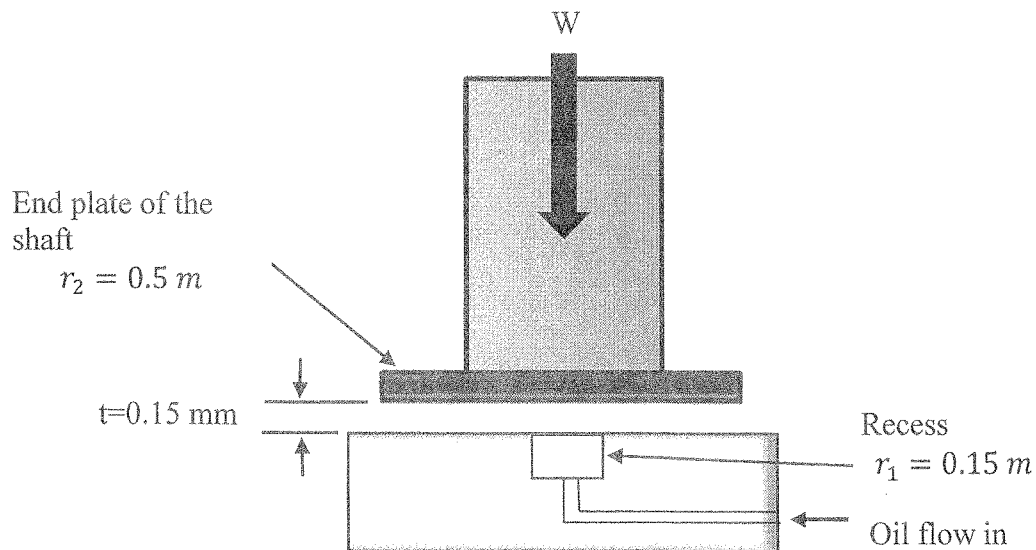

Figure Q5
- c) Figure Q5 shows a schematic diagram of a circular footstep bearing used in a hydroelectric power plant. The radius of the end plate of the shaft $r_2 = 0.5$ m and the radius of the cylindrical recess $r_1 = 0.15$ m. An oil at pressure 7 MPa with a dynamic viscosity 0.25 Ns/m² is pumped to the bearing recess. The metal to metal contact is prevented by maintaining oil film thickness of $t = 0.15$ mm between the bottom surface of the end plate and the bearing. If the generator shaft of the power plant is rotating at a speed of 2400 rpm, determine,